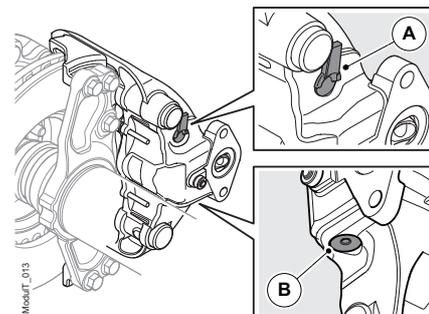

Figure 19. The two protection plugs
Never remove the protection plug (B) and never turn the special screw (D) on figures 19 and 20. If the protection plug (B) is removed and the Screw (D) is turned, it will void warranty and will compromise the life of the disc brake!